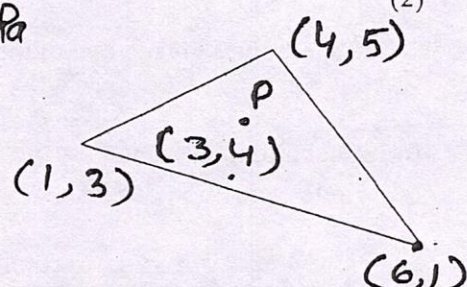

Fig. 4
Q4: (a) A point P lying within the triangular element shown in the figure 4. Find out its shape functions. Also find out the displacement at the point P given that the displacement at node 1, 2 and 3 is (0.1, 0.2), (0.1, 0.1) and (0.2, 0.1) respectively. (5)